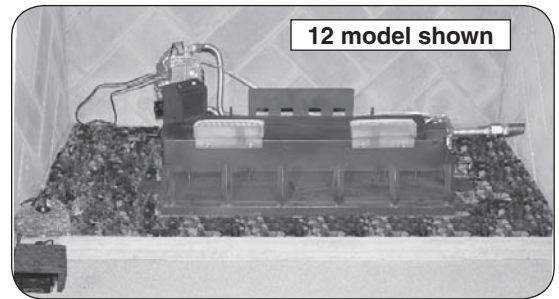

Fig. 21-1 Place lava granules
1. Spread the supplied lava granules on the floor of the fireplace; around the front and sides of the burner system (see Fig. 21-1). The lava granules may be placed around the wood chip and remote receiver (as applicable). Leave the front and top of the components clear for control access.